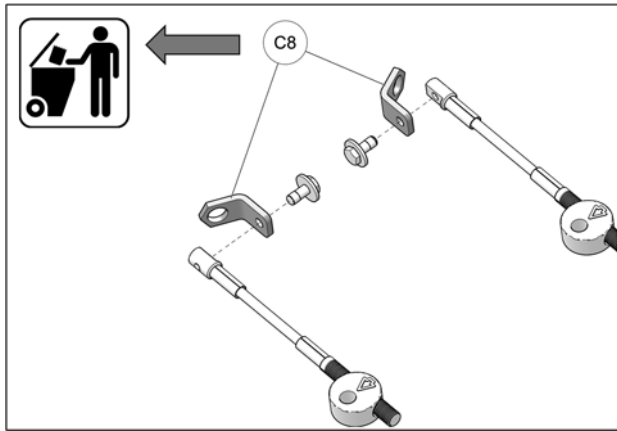

Fig. 17
- 2015 and later front track systems: Stabilizing arms have an integrated Steering Limiter holding plate. It is not necessary to install the holding plates (C8) provided in the Steering Limiter kit. See Fig. 17